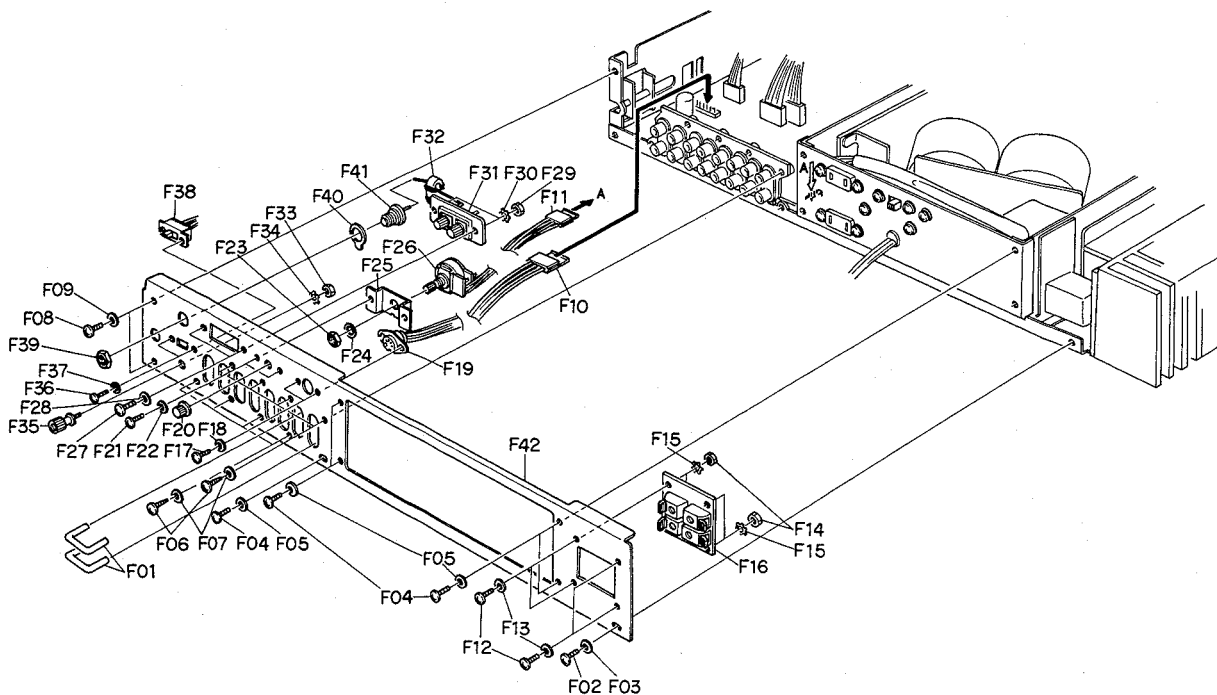

Fig. 3.11
Refer to Fig. 3.11. Remove Side Panel R and Covers referring to items 3.1 and 3.2.